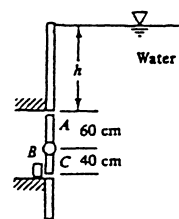

Fig. P2.79
**2.79** Gate ABC in Fig. P2.79 is 1-m-square and hinged at B. It opens automatically when the water level is high enough. Neglecting atmospheric pressure, determine the lowest level  $h$  for which the gate will open. Is your result independent of the liquid density?